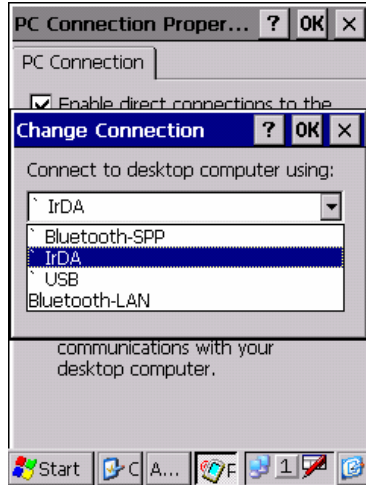

Figure 5.4
2. Set **PC Connection** to **IrDA**. If it is not IrDA, tap **Change Connection...** button in **PC Connection** tab (see Figure 5.4) and choose **IrDA** in the pull-down menu box in the window in Figure 5.4. Tap **OK** button twice.